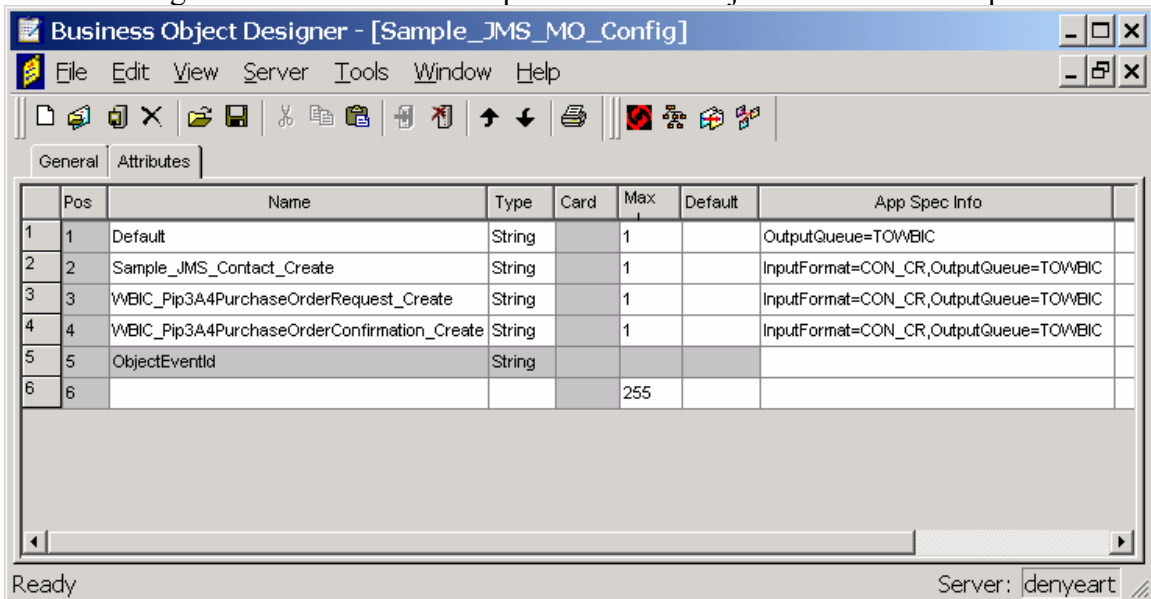

Figure 11. Sample JMS adapter static meta-object
2. Create JMS static and dynamic meta-objects. See Figure 11 for a sample of a JMS meta-object.